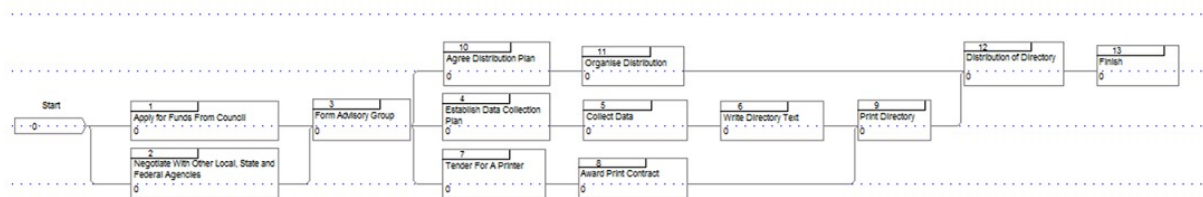

Figure 4 Logic Critical Path Diagram
The logic critical path diagram for directory production is shown below in Figure 4, illustrates each of these stages. Each stage has at least one arrow entering it and one leaving: for example, organising distribution (11) is dependent on agreeing a distribution plan (10) and collecting the data (5) cannot happen until a data collection plan has been established (4). However, preparatory activities for distribution (10 and 11) and printing (7 and 8) can run concurrently. It is assumed that the advisory group will make decisions about the acceptability of the data collection and distribution plans and will agree the printing contract.